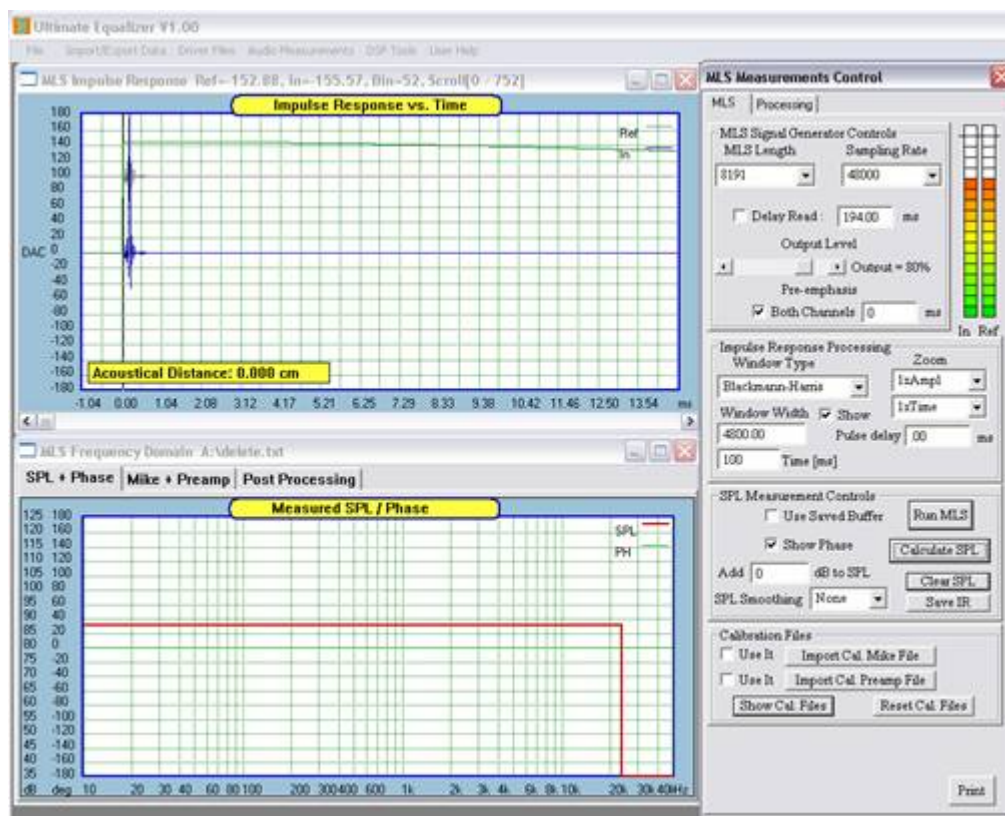

Figure 30. Amplitude and phase response from correctly function sound card loop test.
- The amplitude (red) and phase (green) response should be flat to 24k Hz as shown in Figure 30.